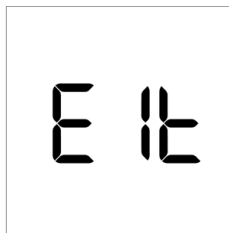

Fig 5.45
- Press the right or left button to exit the test record query (Ref Fig 5.45).